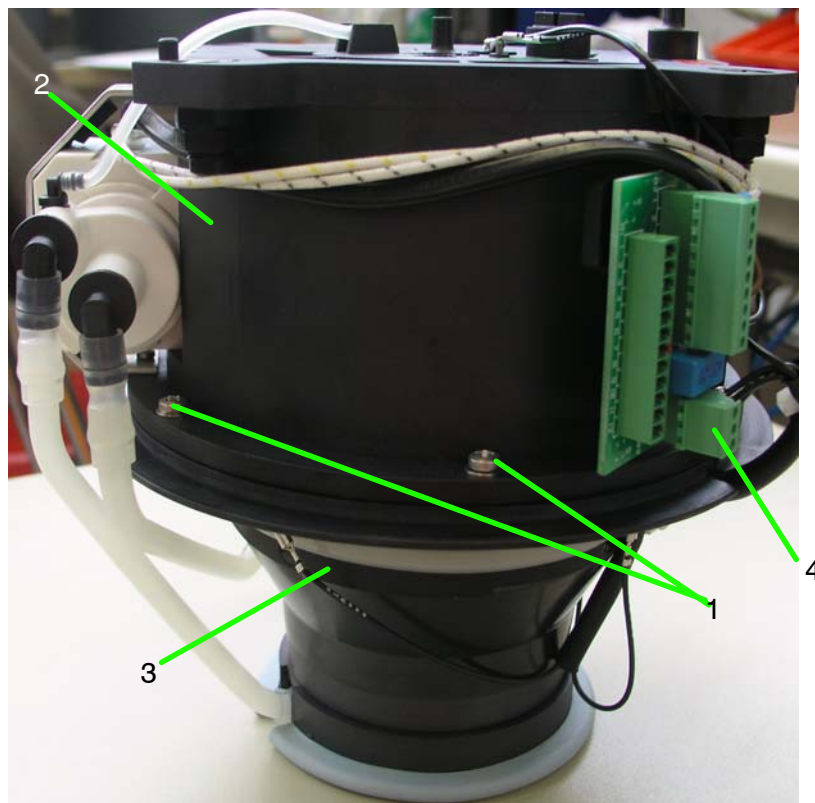

Figure 44: Outer sphere
- Undo the six screws (Figure 44/1) fastening the upper and lower halves of the outer sphere (Figure 44/2 and 3).
- Remove plug B3 (Figure 44/4) from the plug plate.
- Remove the upper half of the outer sphere (Figure 44/2). Take the gyrosphere (Figure 45/2) out of the transportation box and carefully insert it using the suction cup (Figure 45/3) in the lower outer sphere (see Figure 45).
- Retighten the six screws (see Figure 44/1).
- Insert plug B3 (Figure 44/4) again.